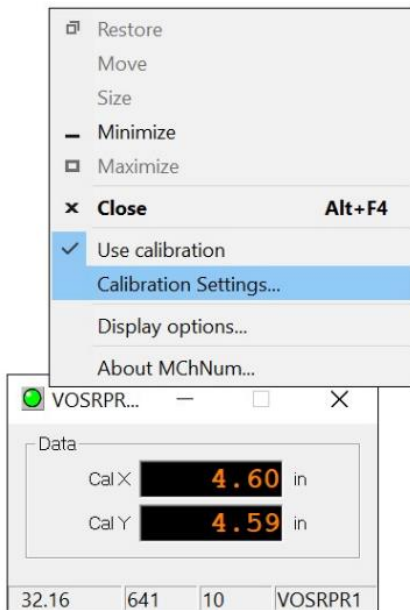

Figure 5-1.2 MCHNum context menu
6. Click the Green LED at the top left corner of the MCHNum Browser window or right click the top pane to display the MCHNum context menu (Figure 5-1.2).
7. Click the Green LED at the top left corner of the MCHNum Browser window or right click the top pane to display the MCHNum context menu (Figure 5-1.2). This time click **Use Calibration**.